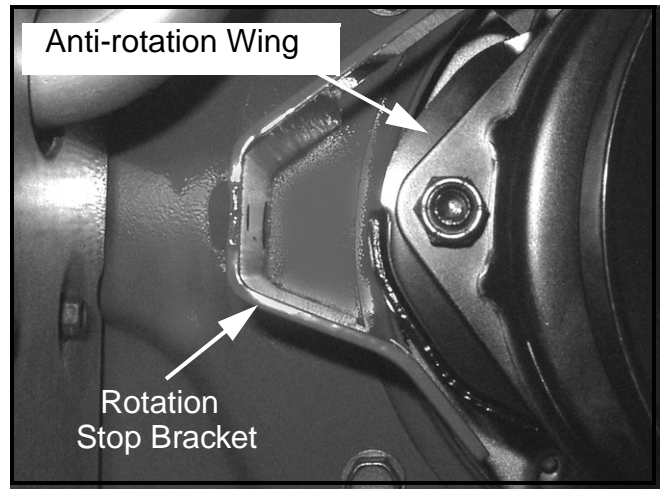

FIGURE 4
NOTE: *Observe how the electric clutch anti-rotation wing sets into the rotation stop bracket. See Figure 4.*
19. Re-install the flat washer (if so equipped) and then the electric clutch onto the crankshaft. Ensure the clutch's anti-rotation wing is in the rotation stop bracket as shown in Figure 4.